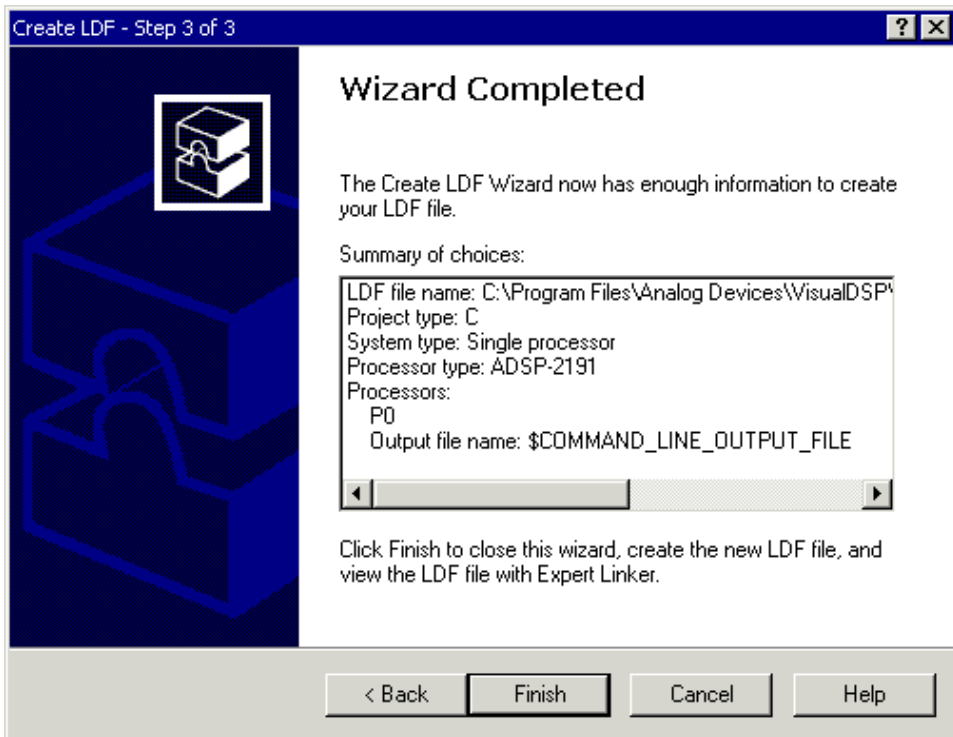

Figure 2-17. Create LDF – Step 3 of 3 Page
4. Accept the default values and click **Next** to display the **Create LDF – Step 3 of 3** page, shown in Figure 2-17 on page 2-24.